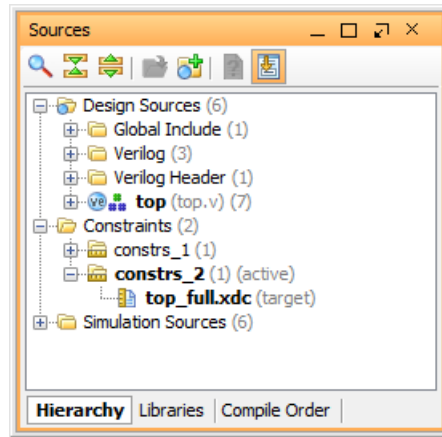

Figure 6: Sources window
1. In the Sources window, **expand** the **Constraints** folder to ensure `constrs_2` is active, as shown in Figure 6.